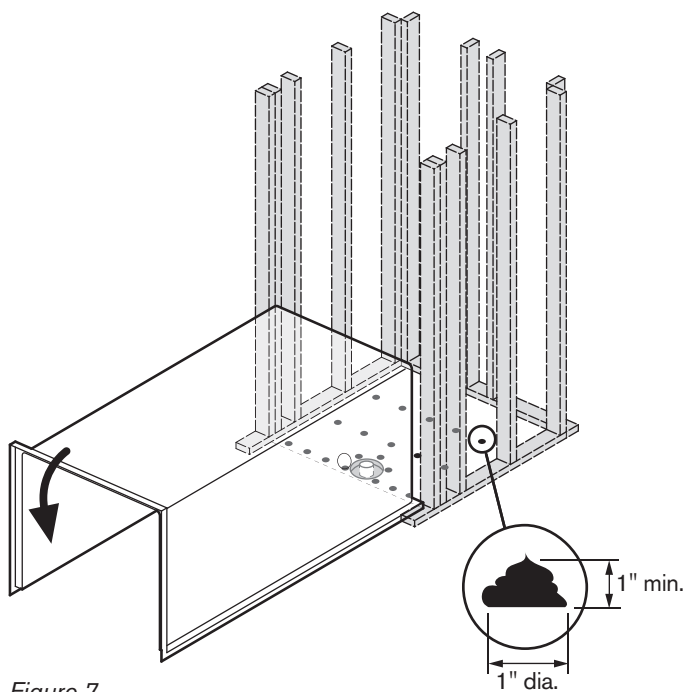

Figure 7
- 13 Place shower unit in pocket and tip forward so face is lying on the floor while you apply the epoxy. Place thick (1" high, minimum) dollops following the pattern you marked on the floor. The epoxy will fill the void to both secure the pan and help support it. (Figure 7)